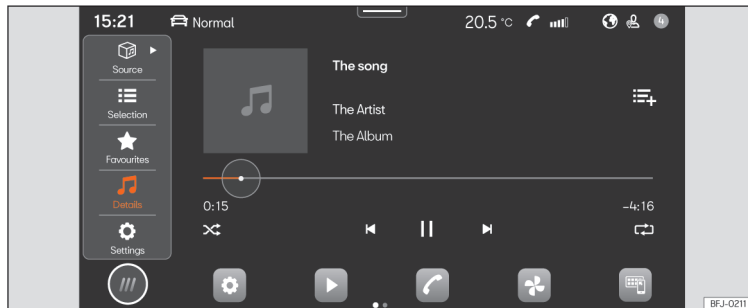

Fig. 189 Schematic diagram: Media view
- Press **HOME** > ► >>> **Fig. 189**.